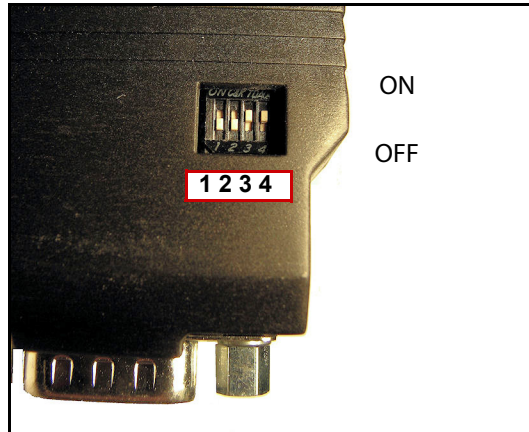

Figure 3-31: DIP Switch Location
Important: *If the iNM is NOT either the first or last device on the RS-485 segment, switch 4 on the iNM DIP switch must be set OFF to disable termination. Refer to Figure 3-31 and Figure 3-32 on page 3-64.*
- 1 Make sure that the iNM DIP switches are correctly set for RS-485 operation and correct termination. See Figure 3-31 and Figure 3-32 on page 3-64.